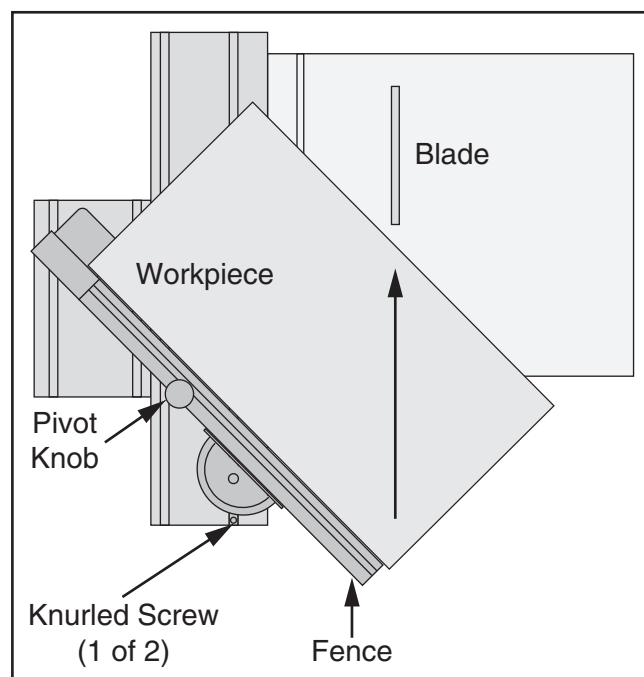

Figure 31. Example of miter cutting with fence positioned to right.
1. Loosen fence pivot knob (see **Figures 31–32**) and knurled screws in miter bar, then move fence to rear of sliding table.